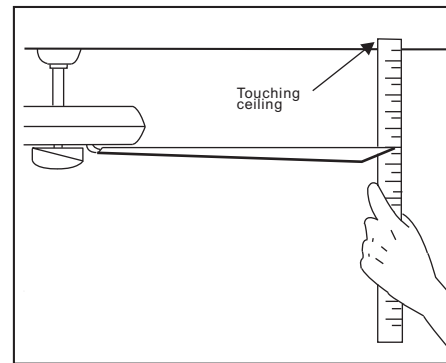

Figure 18
2. Most fan wobble problems are caused when blade levels are unequal. Check this level by selecting a point on the ceiling above the tip of one of the blades. Measure this distance as shown in Figure 18. Rotate the fan until the next blade is positioned for measurement. Repeat for each blade. The distance should be equal within 1/8". Run the fan for 10 Minutes.